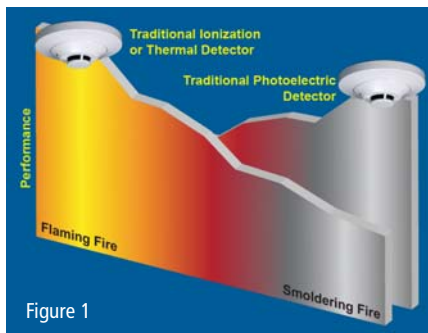

Figure 1
Another issue is that different fire types produce different levels of smoke, heat, carbon monoxide (CO) and light. For example, as Figure 1